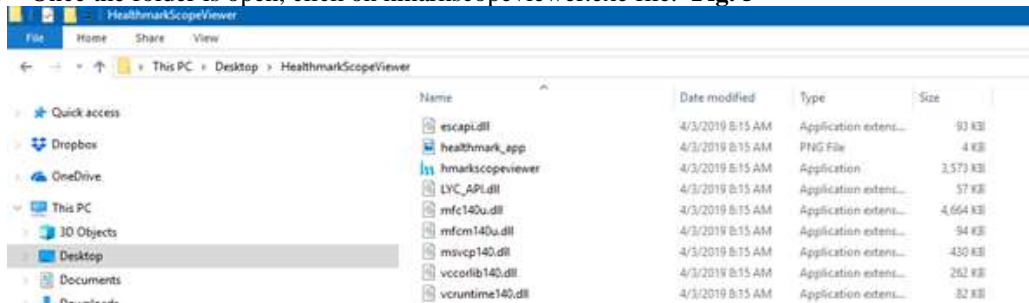

Figure 5
2. Once the folder is open, click on hmarkscopeviewer.exe file. **Fig. 5**